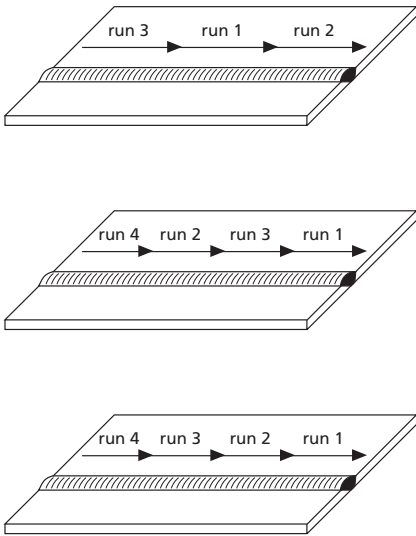

Figure 4.13. Block welding sequences
- Distortion is reduced by using balanced welding sequences and techniques. These may incorporate block and back-step welding sequences (see figure 4.13). Intermittent welding can help combat distortion.